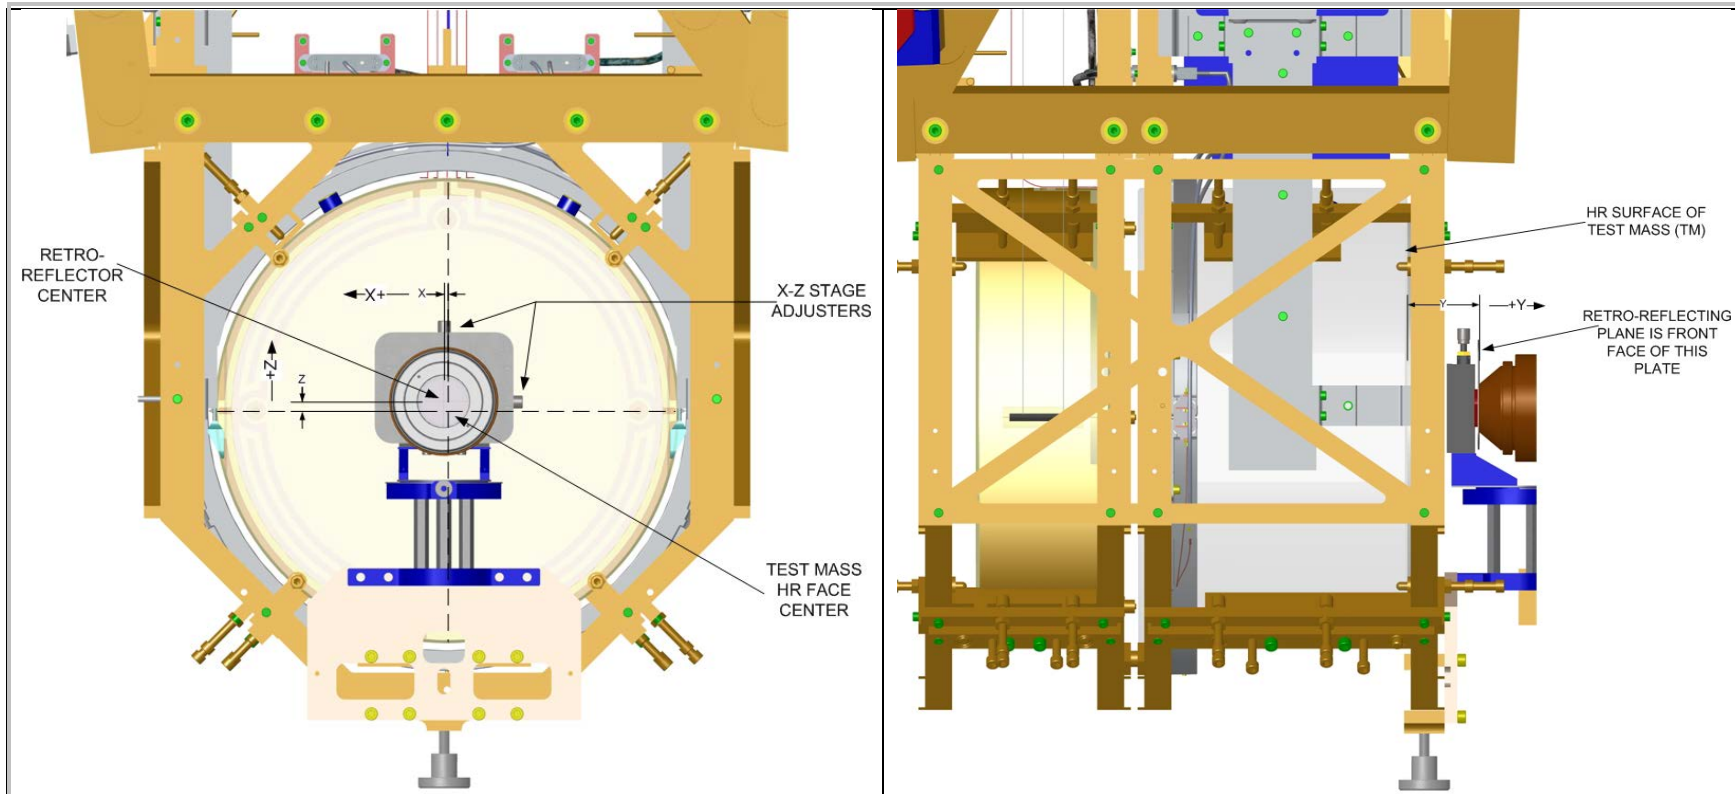

Figure 6: X, Y and Z offsets between the HR face center and the Retro-Reflector Center
- Use a CMM to measure the Y distance (offset) between the reflecting plane reference on the retro-reflector to the test mass HR face (see Figure 6). The CMM probe is not to contact the HR face of the optic except along the outer perimeter